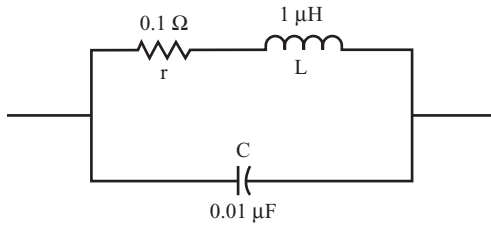

FIGURE 7.40
**26** The inductor and capacitor shown in Figure 7.40 are connected in parallel, rather than in series. However, you can use the same formulas you used for the series circuit in problem 20 to calculate  $f_r$ ,  $Q$ , and BW for parallel LC circuits.
Find  $f_r$ ,  $Q$ , and  $BW$  for the circuit shown in Figure 7.40.